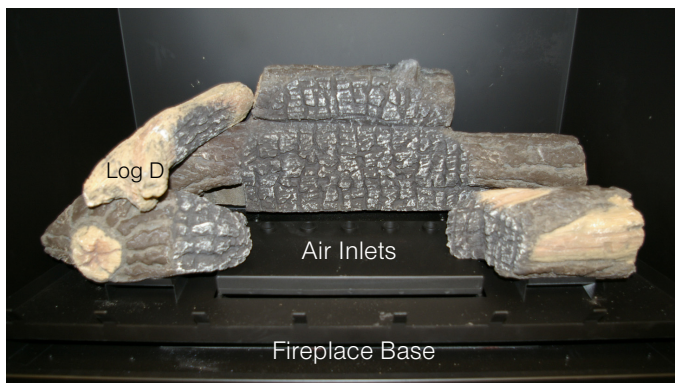

Figure 27c. Top Left Log, (Log D).
Step 5. Place Front Left log (Log D) as shown in **figure 27c**.